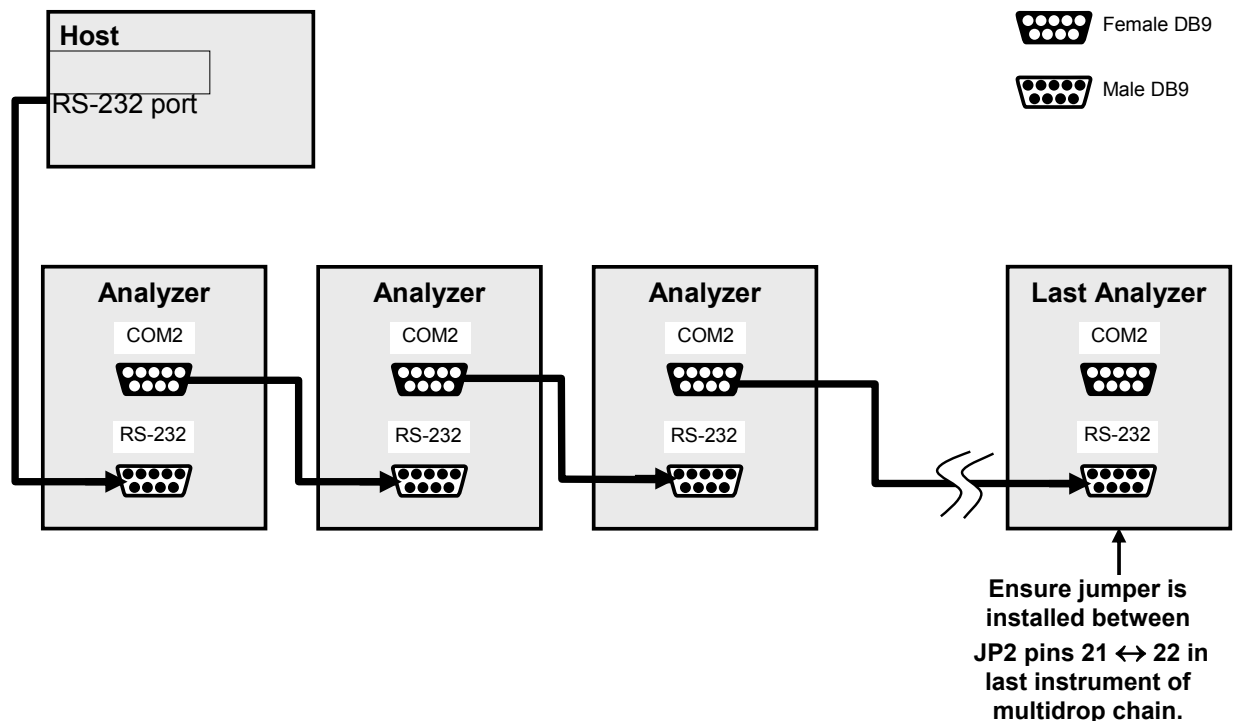

Figure 4-9: RS-232-Multidrop Host-to-Analyzer Interconnect Diagram
5. Referring to Figure 4-9, use straight-through DB9 male-DB9 female cables to interconnect the host RS232 port to the first analyzer's RS232 port; then from the first analyzer's COM2 port to the second analyzer's RS232 port; from the second analyzer's COM2 port to the third analyzer's RS232 port, etc., connecting in this fashion up to eight analyzers, subject to the distance limitations of the RS-232 standard.